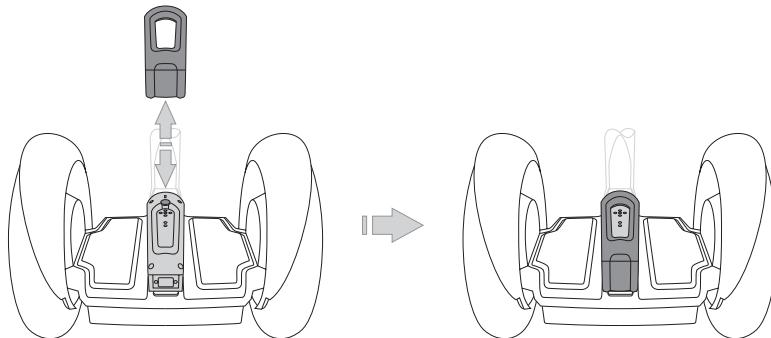

Figure 43. Removing or Replacing the Console Trim
2. Pull up on the rigid plastic Console Trim located on the Console and between the Mats. See **Figure 43**.